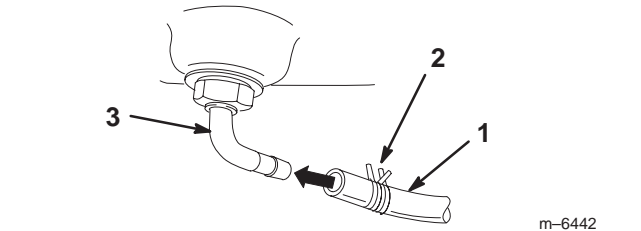

Figure 6
- Slide the hose clamp onto the fuel line (Fig. 6).
- Push the fuel line onto the fuel tank connection and secure it with a hose clamp (Fig. 6).